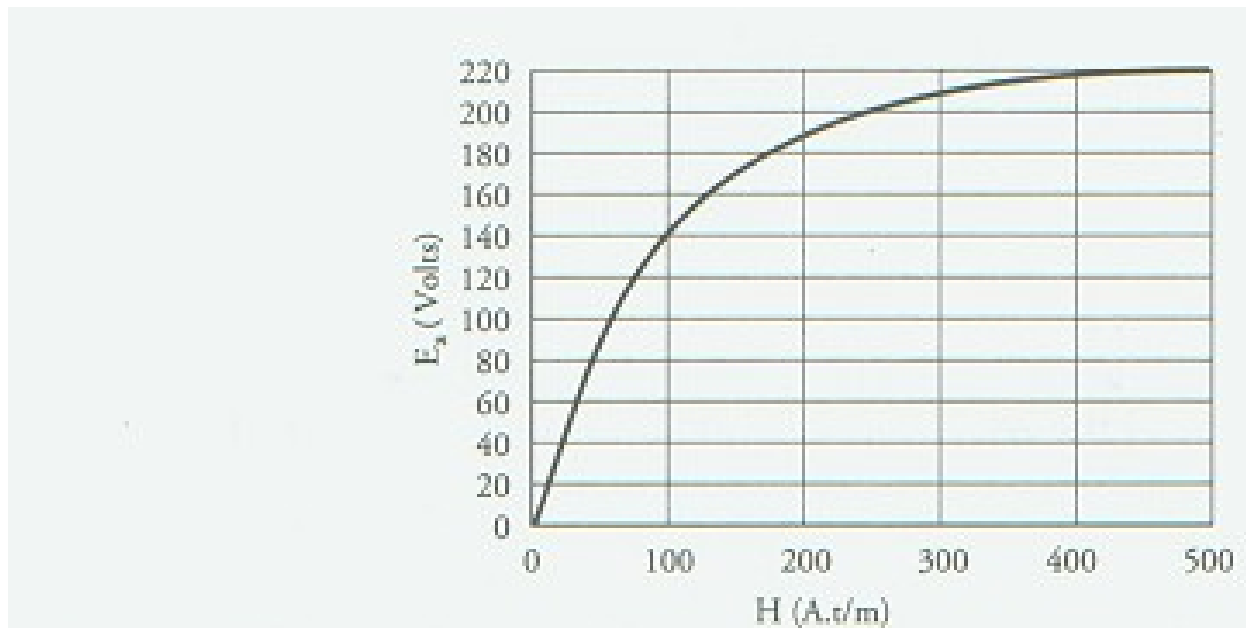

Figure 6.7 The magnetization curve of a dc motor at 1200 rpm.
- The magnetization curve of a 10-hp, 220-V series motor is given in Figure 6.7 at 1200 rpm. The other parameters of the series motor are $R_a = 0.75 \Omega$, $R_s = 0.25 \Omega$, and $P_r = 1.04 \text{ kW}$. What is the armature current when the motor delivers its rated load at 1200 rpm? What is the efficiency of the motor at full load? What is the number of turns per pole? When the load is gradually reduced, the armature current decreases to 16.67 A. Determine (a) the new speed of the motor and (b) the driving torque.